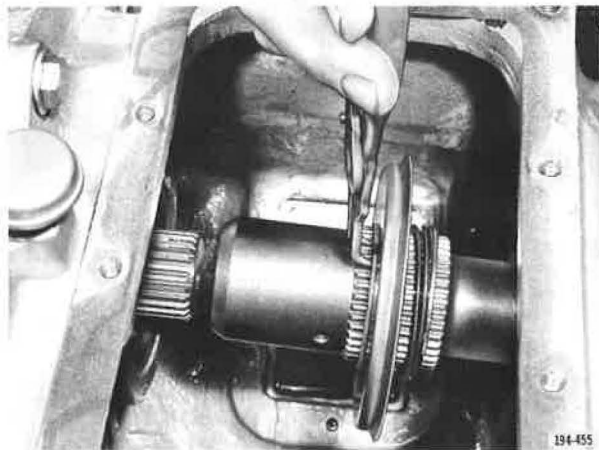

Figure 5-78. Removing Rear Countershaft Oil Slinger Front Snap Ring
11. Remove countershaft rear bearing cover capscrews and cover. Remove power-take-off cover capscrews and covers. Remove the lower and right-hand rear countershaft oil slinger front snap rings, or power-take-off gear front snap ring when incorporated. See Figure 5-78.